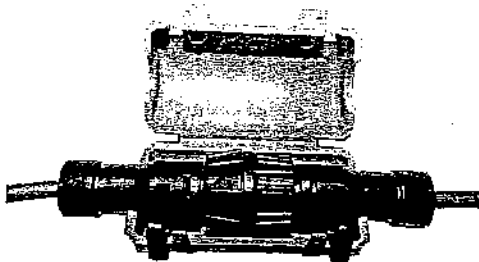

Figure 4: Connector correctly placed inside security cover
3. Place the connector assembly inside the security cover (PN: 68319-001). Make sure the tabs rest in the slots as shown in Figure 4.